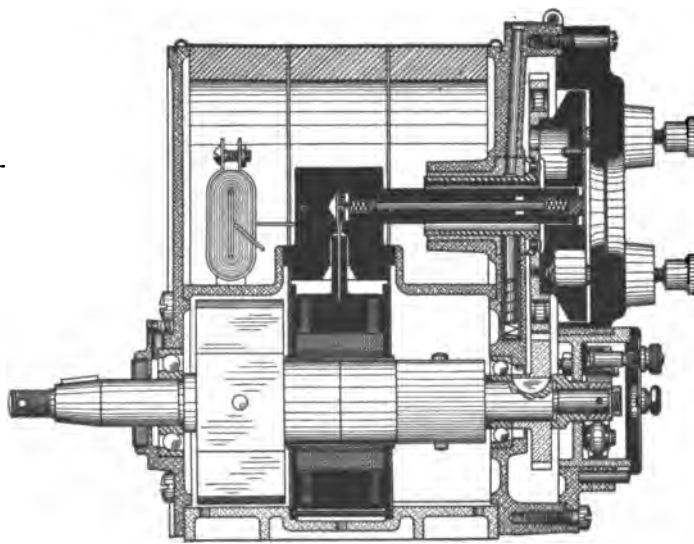

Fig. 25. Cross Section Model TK Magneto
- 187** — Fig. 25 shows a cross section of the model TK with impulse starter removed. All the repairs that can be made to the TK by one not a magneto expert can be made either at the circuit breaker or distributor. The circuit breaker can be removed by shoving the spring clip aside, and by removing the cover nut access can be had to the points. Removing three cap screws will expose the distributor for inspection.